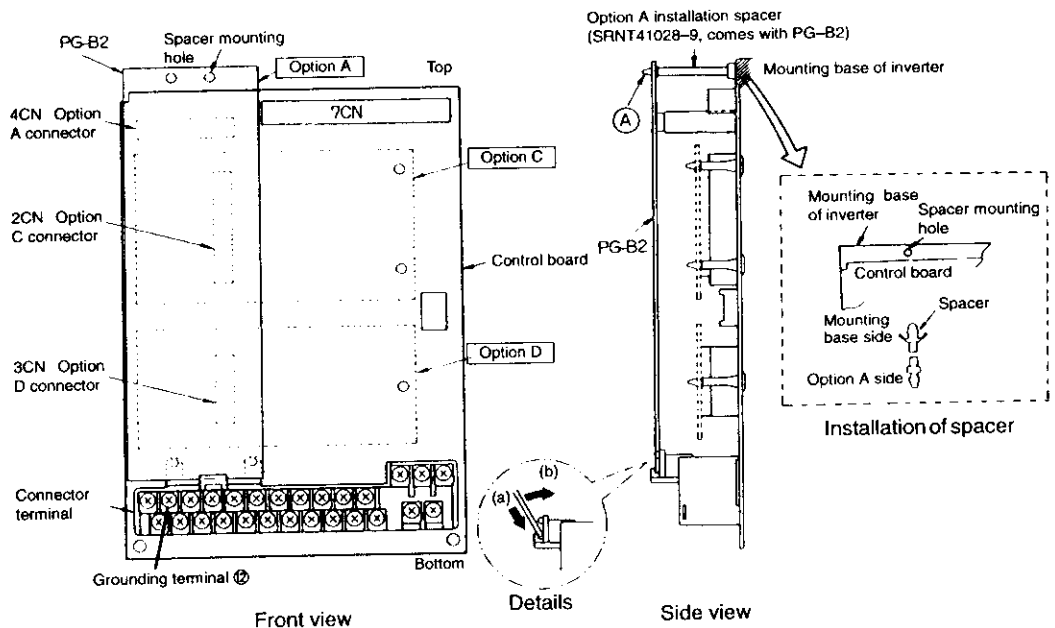

Fig. 3 Installation of PG speed control card PG-B2
2 Installing to Inverter (See Fig. 3)
- ① Turn OFF the main power and wait for the time specified on the cover of the inverter. Remove the cover and verify that the CHARGE indicator lamp is OFF.
- ② Insert the attached spacer (SRNT41028-9) into the spacer mounting hole in the mounting base of the inverter. (See Fig. 3.)